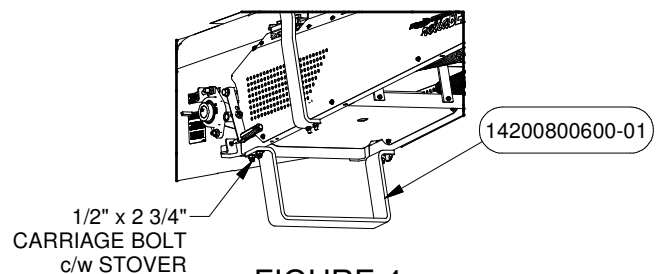

FIGURE 4
4. Attach the Intake Rise PN# 6848 to the Intake using Carriage Bolts and Stovers. Fasteners can be found in Bolt Bag PN# 6915 in Short Intake Hardware Box PN# 6913. See Figure 4 for details.